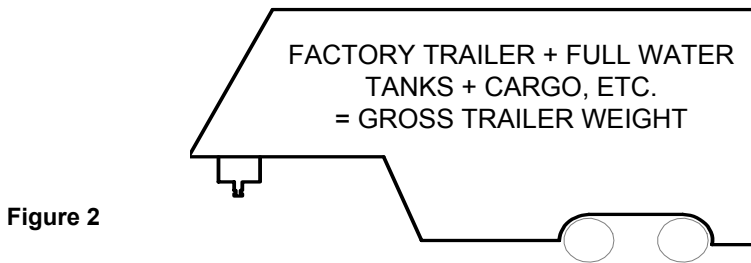

Figure 2
- Towing vehicle must have a manufacturer’s rated towing capacity equal to or greater than the gross trailer weight (dry weight of the trailer plus payload of the trailer). (Figure 2)
Gross Trailer Weight (Figure 2): _____